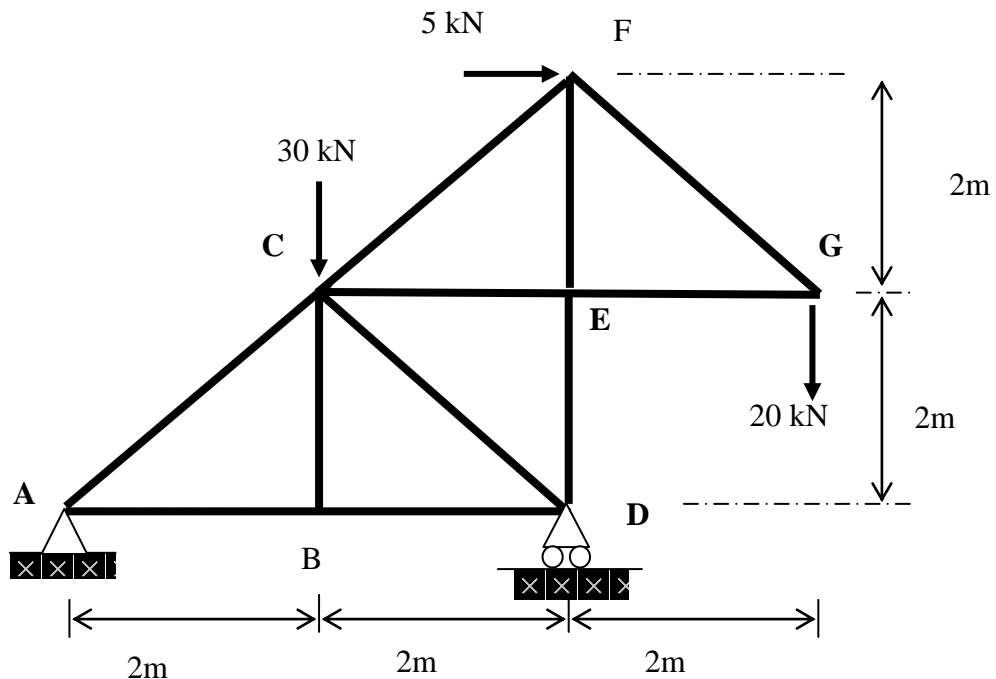

Figure 3
2. (a) Determine the member forces CF, CE and ED for the truss shown in Figure 3 by the method of sections and classify whether they are in tension or compression.